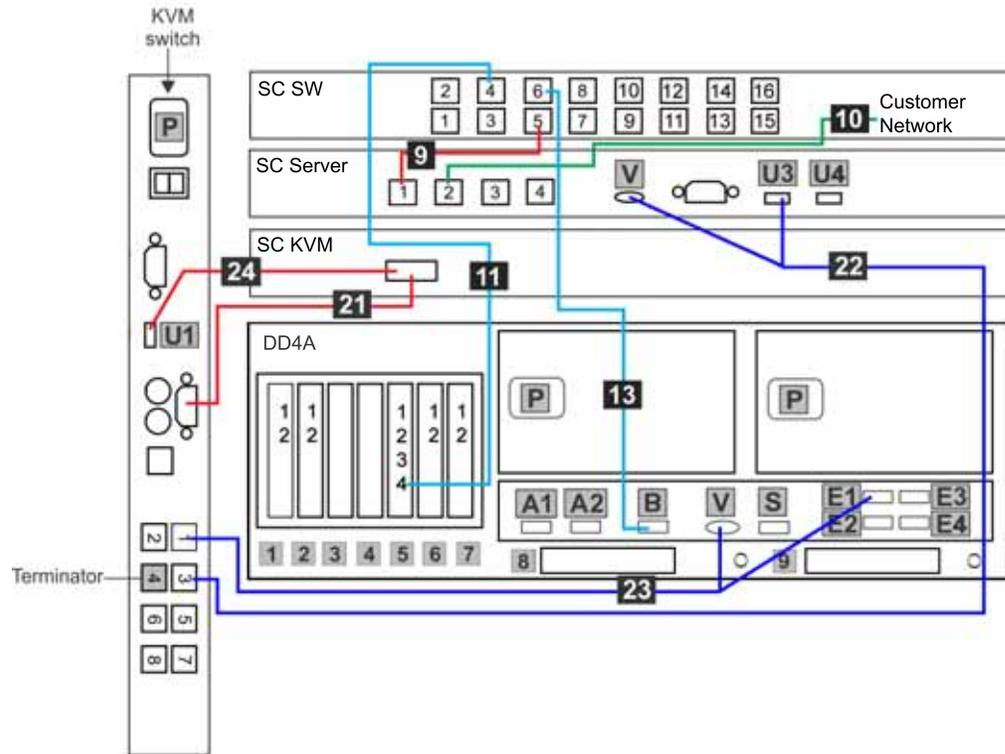

Figure 13. TSSC, KVM and customer network Ethernet connections for stand-alone VTL configuration
- Depending upon the model of the TSSC and TSSC network switch being used, the port layout may differ from what is shown in Figure 13 on page 39. If so, make the cable connections according to the port number assignments specified in Table 10 on page 39, regardless of the position of the ports on the TSSC or the switch. Refer to the *IBM System Storage TS3000 System Console (TSSC) Maintenance Information* for detailed port information.